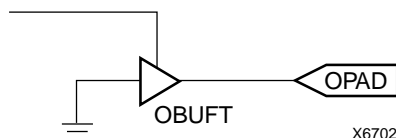

Figure 12: Open-Drain Output
An output can be configured as open-drain (open-collector) by placing an OBUFT symbol in a schematic or HDL code, then tying the 3-state pin (T) to the output signal, and the input pin (I) to Ground. (See Figure 12.)